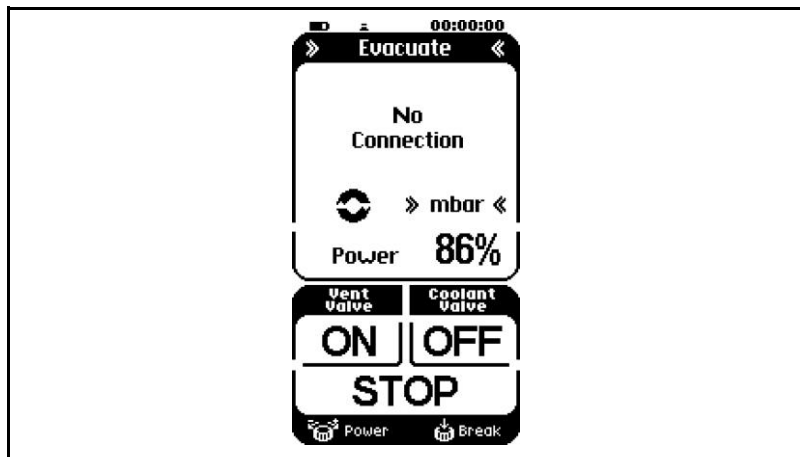

Fig. 16 : Display "No connection"
- The message "No connection" will flash in the hand terminal's display (see Fig.16);